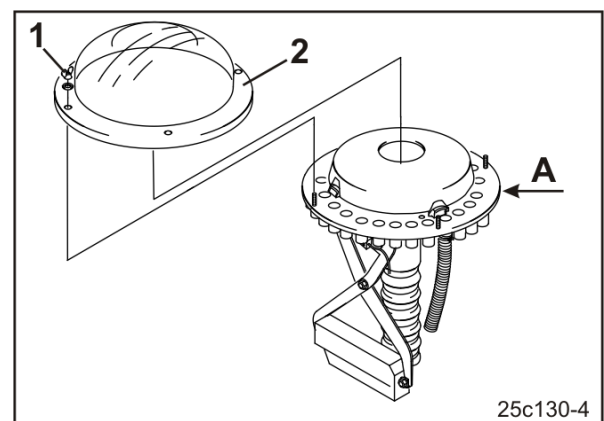

Fig. 246
4. Slacken the winged nuts (Fig. 246/1) and remove the clean plastic flap (Fig. 246/2) from the distributor head.
6. Clean impurities between the base plate (Fig. 246/A) with compressed air.
7. Install the plastic cap (Fig. 246/2).
8. Fix the plastic cap with winged nuts (Fig. 246/1).